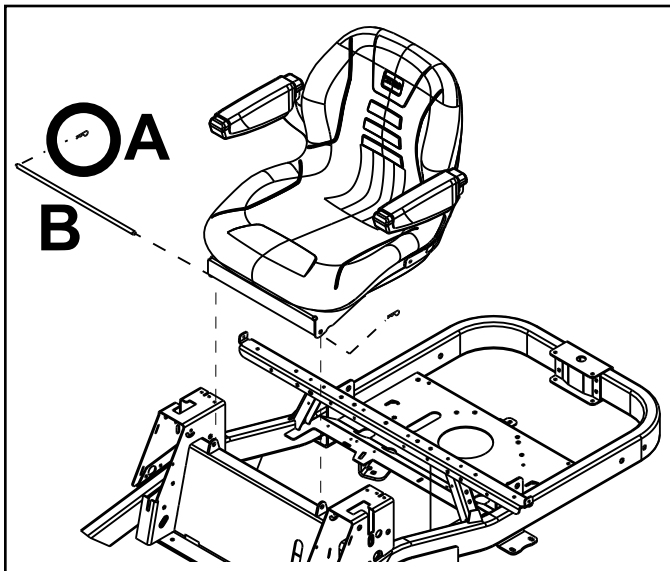

Fig. 018
2. Remove the (2) control handles.
Seat Style 1 - Remove the (2) retaining clips (A), seat pivot rod (B), and seat from the unit (Fig. 018).